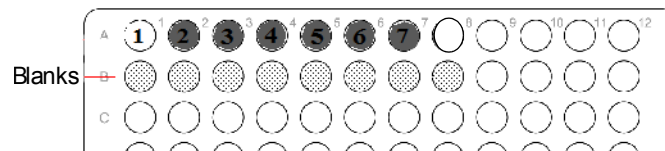

Figure 13 Row for blanks.
2. Make blank: Add 200 μL Nuclease-free Water to each well of empty row (Figure 13).